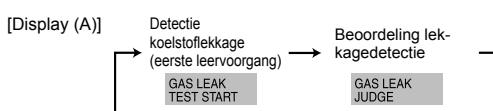

Fig. 8-2
- Druk op **CLOCK** en selecteer [GAS LEAK TEST START] (GASLEKKAGE TEST START). (Fig. 8-2)